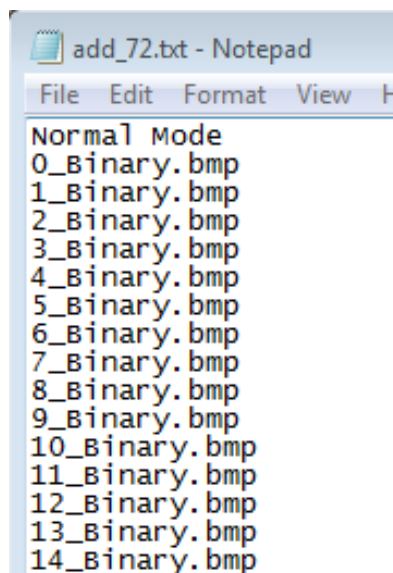
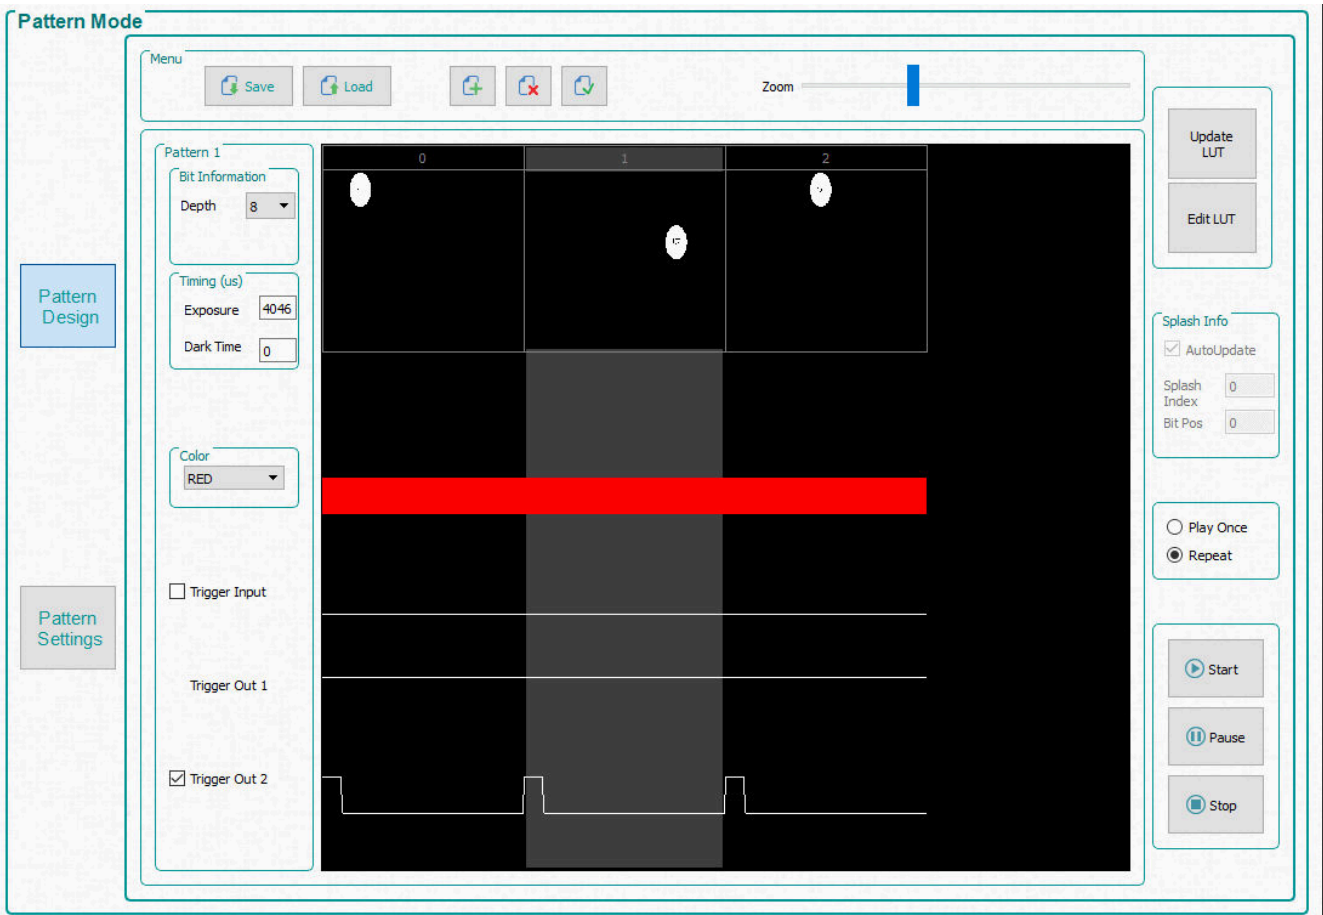

Figure 4-8. Add From List
Figure 4-9. Pattern Sequence
3. Click the *Add Pattern* button in the *Menu* bar and browse for any three bitmap images from the sample of images directory. Be sure to select them from the correct image folder for the EVM that is being used. All three images can be selected at the same time within the open file dialog window. When selecting multiple files at once, the operating system does not load the images in the same order as selected. To add images in a predefined order, use the *Load* button. This option loads the images from a text file that contains the file names of each bitmap in the desired order. Alternatively, you can add the images one at a time using the *Add Pattern* button to verify order. Figure 4-8 shows an example of loading images from a file. The bitmap images must be located in the same directory as the text file. See Figure 4-9 after the images have been added.